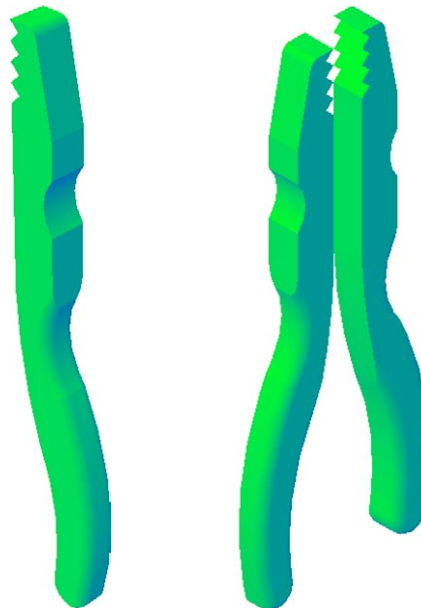

Fig. 14.17 First example – **3D Mirror** – before and after **Mirror**
First example – 3D Mirror (Fig. 14.17)
3. Extrude the region to a height of **5** and render. A **Conceptual** style shading is shown in Fig. 14.17 (left-hand drawing).
The result is shown in the right-hand illustration of Fig. 14.17.